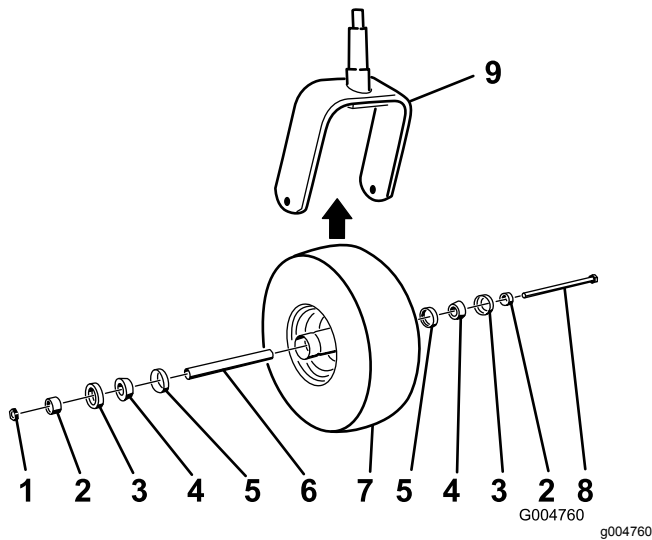

Figure 64
2. Remove the locknut from the bolt (Figure 64).
- Assemble the caster wheel by pushing the cone bearings and seals, packed with grease, into the wheel hub, positioned as shown in Figure 64.